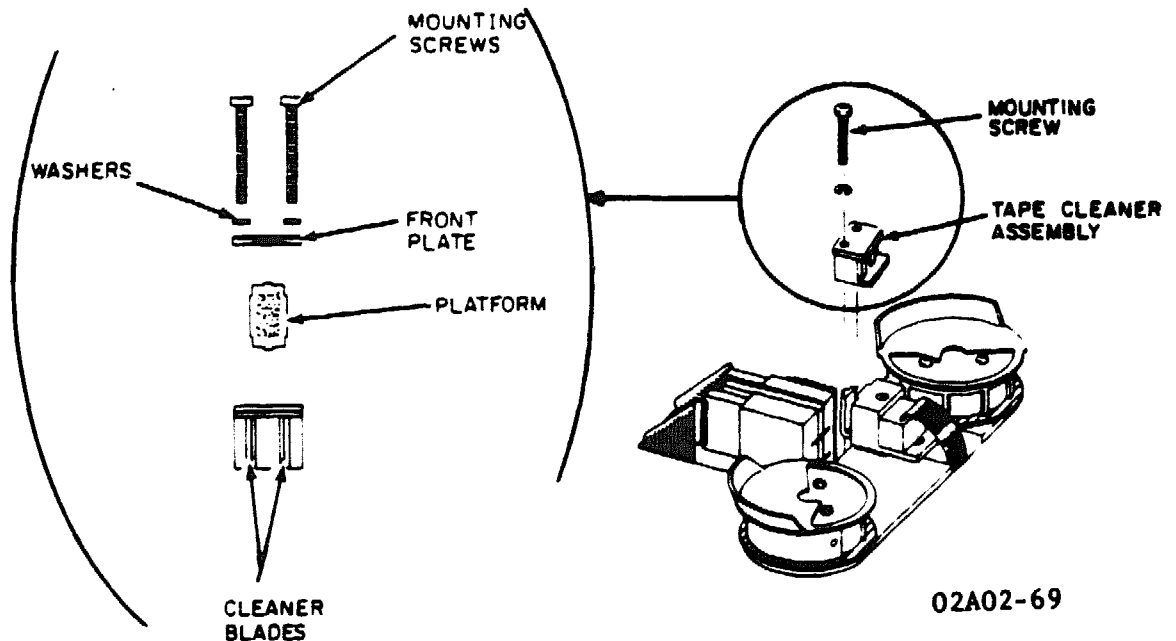

Figure 5-4. TAPE CLEANER
2. Loosen the two mounting screws and remove the cleaner assembly from the tape deck. See Figure 5-4.